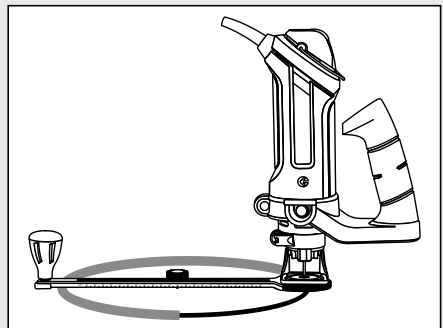

Fig. 14
- When the motor is up to full speed, slowly tip the tool and circle cutting guide assembly to an upright position, letting the bit cut into the workpiece (Fig. 14). Be careful to keep the pivot point located at the center of the circle to be cut. Once the tool has reached the upright position and the bit has cut through the workpiece, slowly move the tool in a **clockwise** direction using slow steady pressure to make the cut. Continue to cut the circle, keeping the tool upright and rotating around the circle cutting guide pivot point.